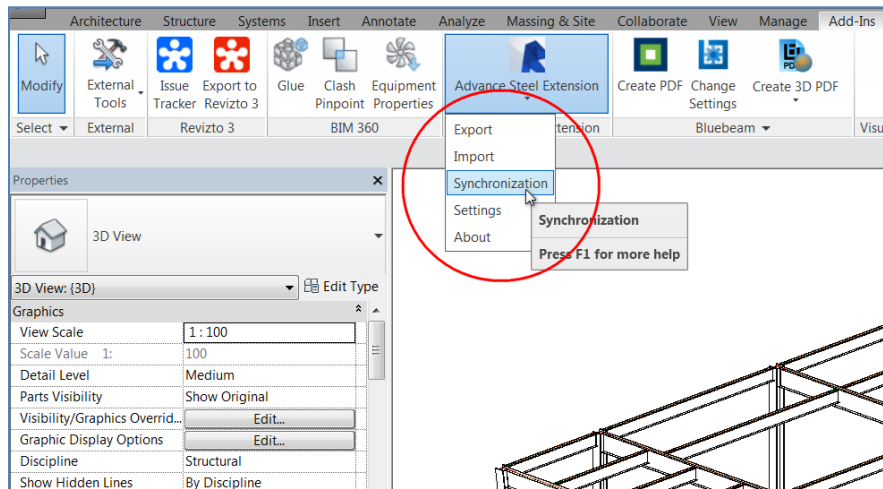

FIGURE 38: INVOKING THE **SYNCHRONIZATION** DIALOG BOX
1. In Autodesk Revit, from the **Add-Ins** ribbon tab > **Advance Steel Extension** ribbon panel, click **Synchronization**, as shown in Figure 38.